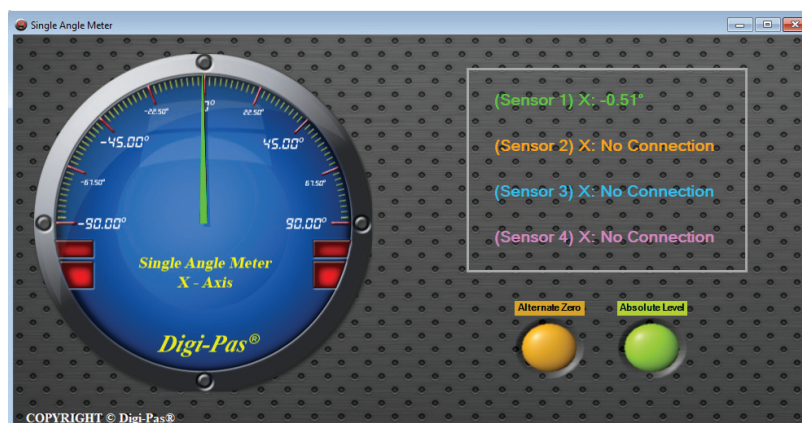

Figure 23. Interface of the PC SYNC software with Single Angle Meter feature
4. Screen as illustrated in Figure 23 appears. The feature icons are enabled and ready for selection (e.g. Single Angle Meter, Dual Angle Meter...). Following is an example when Single Angle Meter feature icon is clicked.